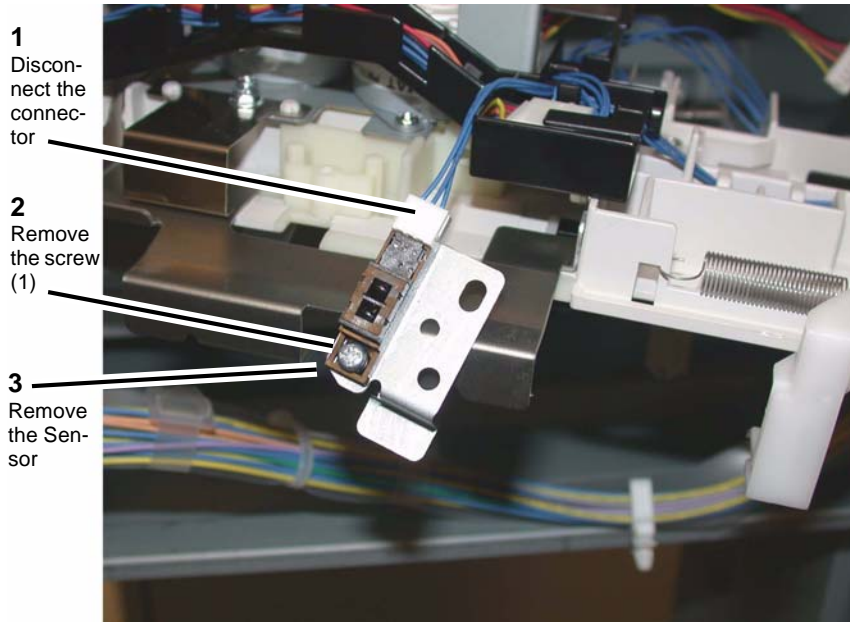

Figure 2 Removing the Compiler No Paper Sensor
6. Disconnect the connector (Figure 2).
7. Remove the screw (1) that secures the sensor.